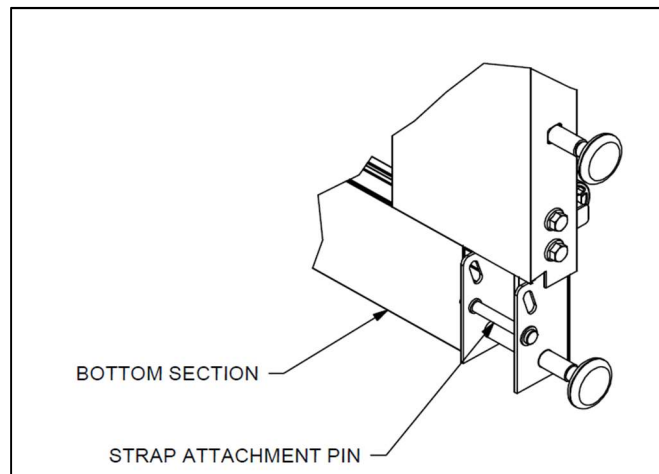

Figure 14 - ATTACHING STRAP TO BOTTOM SECTION
33. Remove the cotter pin in order to remove the strap pin shown in **Figure 14**.